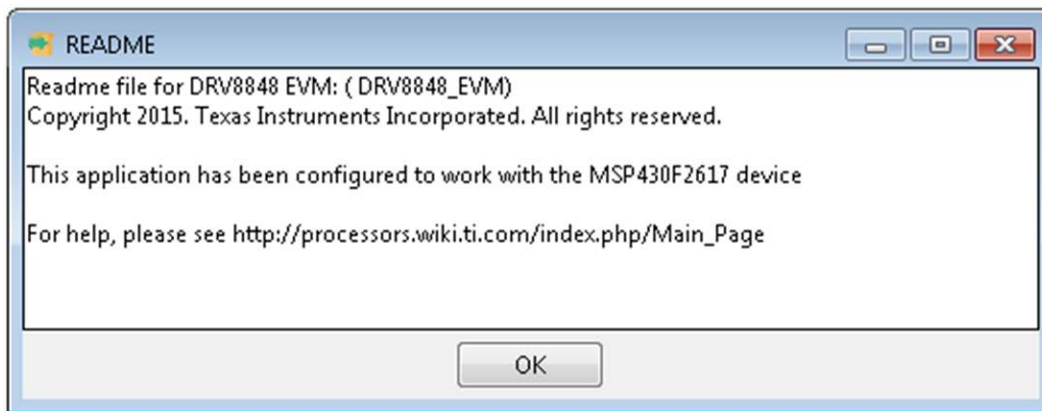

Figure 9. Readme Window
Step 8. A Readme window as shown in Figure 9 will appear displaying the link for LV 2014 RTE.